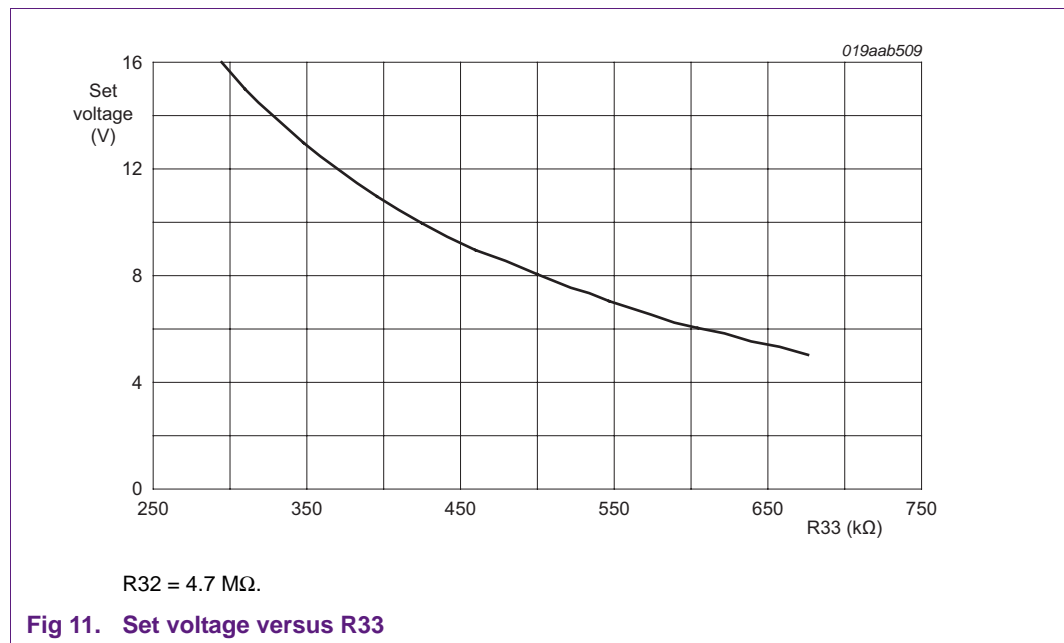

Fig 11. Set voltage versus R33
- Resistor $R33 = 1.22 / (((V_{min} - 1.22) / R32) + 1e^{-6})$. Alternatively the value for R33 for can be found in Figure 11. The curve is valid for $R32 = 4.7\text{ M}\Omega$
At low loads up to the Standby mode power threshold level, the minimum output voltage is lower than the set voltage. See Figure 10 for an output load of 20 mA. To guarantee a minimum output voltage is it necessary to adjust to a higher voltage (i.e. to the set voltage as shown in Figure 11). The adjustment procedure is as follows:
- Resistor $R33 = 1.22 / (((V_{\text{set}} - 1.22) / R32) + 1e^{-6})$. Alternatively, the value for R33 for can be found in Figure 11. The curve is valid for $R32 = 4.7 \text{ M}\Omega$